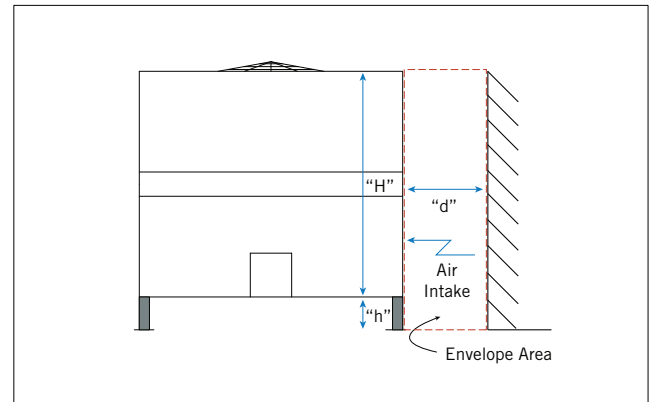

Figure 2b. Section View of a Unit Adjacent to Wall
**NOTE:** Refer to **Figure 2b** on **Page 3** for location of “d” and “h”.